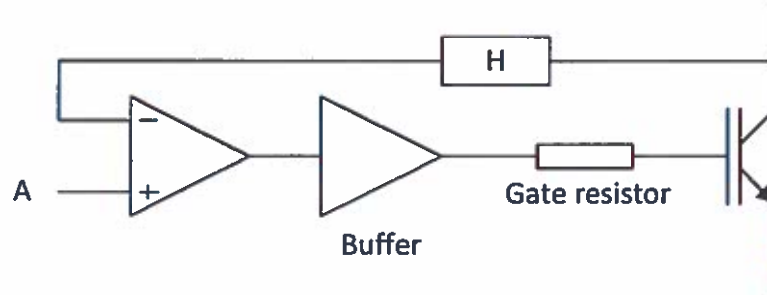

Figure 3.1 Drain voltage feedback system for one device to be used in a series string
- c) It is suggested that, rather than using a sharing network, the drain voltage waveform could be fed back to aid the switching of a chain of devices. Fig 3.1 shows the proposed setup.